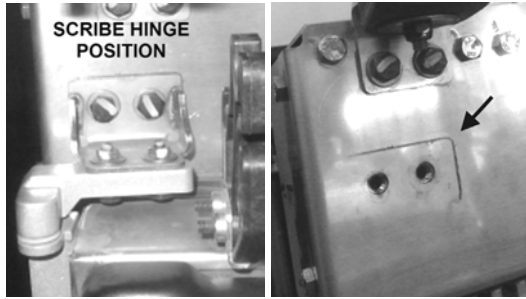

**FIGURE 26: SHROUD HOLD DOWN LATCHES**
4. Unlatch the two shroud hold down latches and open the shroud assembly (yellow handle Figure 26).